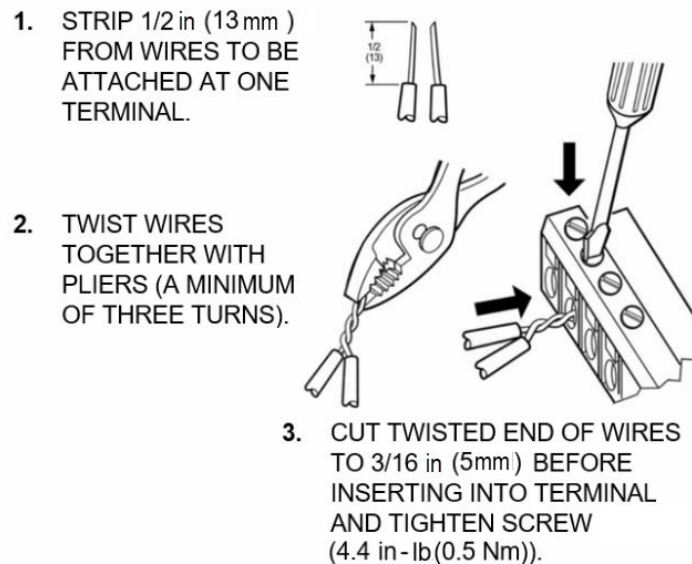

Fig. 9 Attaching Two or More Wires at Terminal Block
1. Extend all red clips to the screw mounting position by inserting the flat blade screwdriver at a marked location and move up the nod from the lower slot to the upper slot as shown in figure 9.
- If two or more wires are being inserted into one terminal location, twist the wires together with a minimum of three turns before inserting them, see Fig. 9.